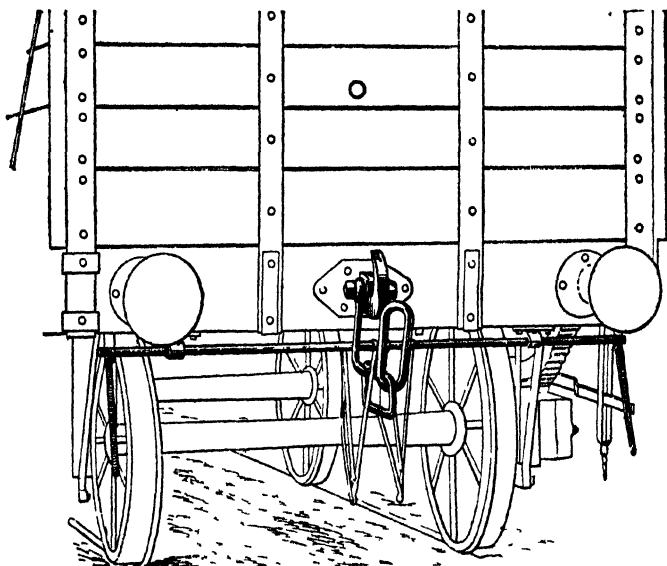

Fig. 31.—William Hill, Stoke-on-Trent (2nd prize, non-automatic).
*2nd prize, non-automatic, £50 (Fig. 31).*